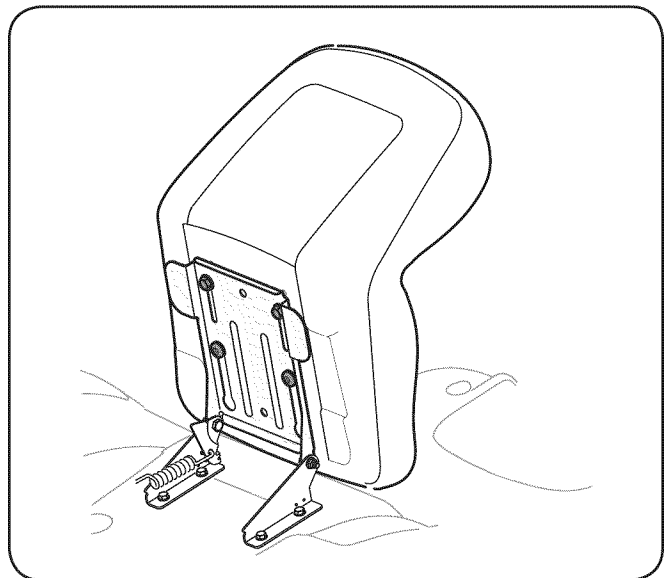
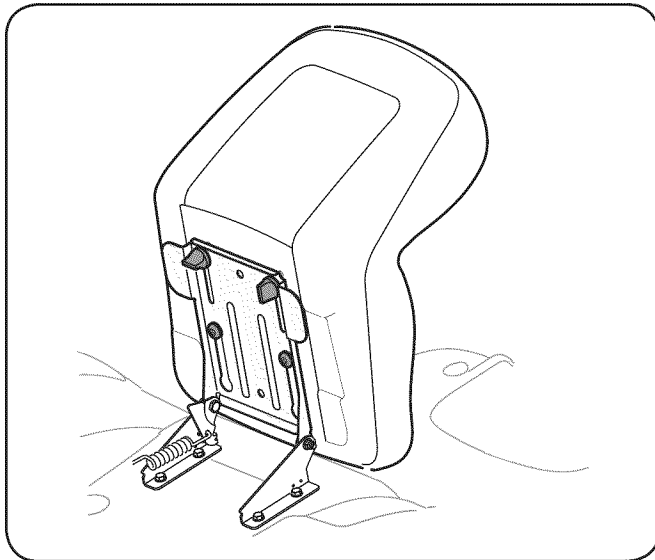
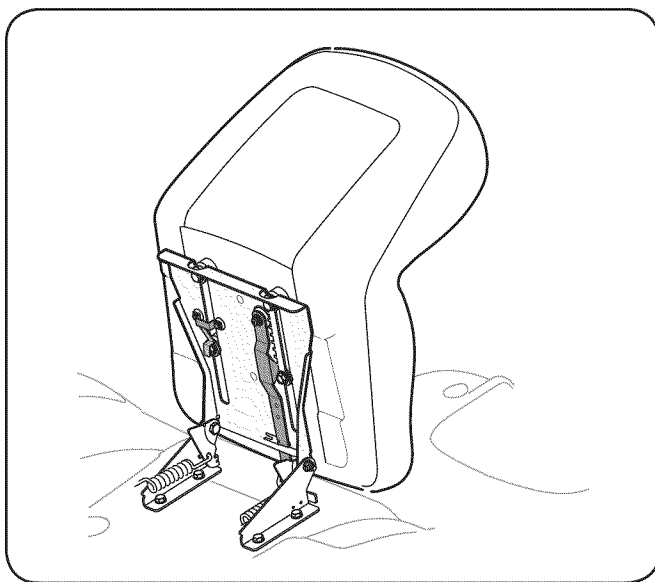

Figure 3-5
Figure 3-6
Figure 3-7
If the seat for your tractor was not attached at the factory, refer to Fig. 3-5, Fig. 3-6, and Fig. 3-7 to identify your tractor's seat style and follow the applicable instructions below to attach it.
1. Position the shoulder screws (found on the base of the seat) inside the slot openings in the seat pivot bracket. Fig. 3-5.
3. Select desired position for the seat, and secure with the two hex screws removed earlier. See Fig. 3-5.
1. Position the shoulder screws (found on the base of the seat) inside the slot openings in the seat pivot bracket. Fig. 3-6.
3. Select desired position for the seat, and secure with the two knobs removed earlier. See Fig. 3-6.
2. Slide seat in until front seat spacer engages the seat stop. See Fig. 3-7.